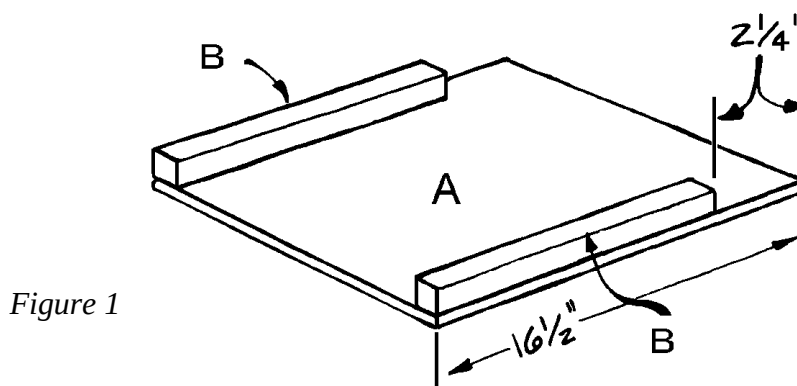

Figure 1
1. Cut two side pieces (A) from $\frac{3}{4}$ "-thick plywood, each measuring 16-1/2 inches by 15-1/2 inches.
2. Cut four corner supports (B) from 2 x 2 pine, each 14-1/4 inches long.
3. Refer to *Figure 1*, and attach one corner support (B) flush with each 16-1/2" edge of one side (A). Note that the corner support (B) is positioned flush at one end and is 2-1/4" short at the other end, as shown in *Figure 1*. This 2-1/4" gap will accommodate the addition of the bottom of the chest and the supports underneath. Use glue and 1" screws placed about every 4 inches. Screw through the side (A) into the corner support (B). Although you don't need to countersink these screws because they will be covered by the trim, be sure to drive them in all the way into the wood so that the screw heads don't protrude.